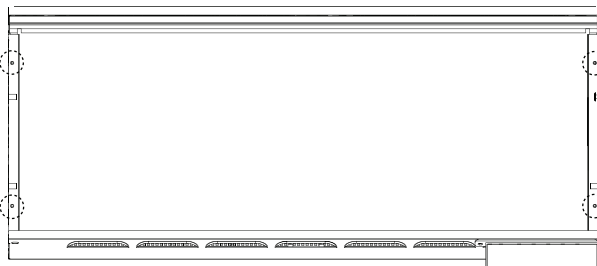

Fig. 4-5
3. Remove the plastic panel holders by removing the screws (**Fig. 4-5 & 4-6**).